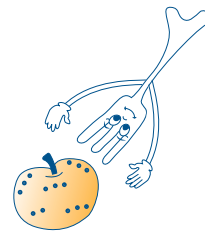

fig. 9
- 4) Pierce foods with skins, shells or peel (e.g. apples, potatoes, tomatoes, frankfurters, fish, etc.) with a fork at several points to allow steam to escape from inside. This prevents these foods from exploding inside the oven (see fig. 9).